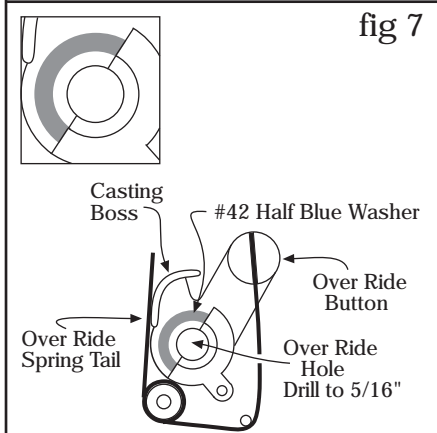

fig 7
2. Using fig 7, disengage the over ride spring by moving the tail from under the over ride button to outside the casting boss.
4. #42 half blue washer seals dust from entering the post. Apply small amount of red grease on one side of washer. Using fig 7 place washer grease first on lower shelf, apply grease to top of washer and center around hole
1. Using (fig 7) select #30 dust cover insert (1/2" dia, X 3/16" tall, turned aluminum ring) and #31 dust cover (3/8" dia. X 1/8" thick stamped steel plug) From top of insert plate, press #30 cover insert into the 1/2" Router Raizer access hole until flush.